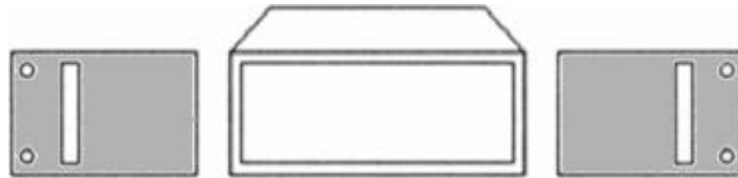

Figure 2. Optional Rack Mounting Kit
1.2.17 Optional Rack Mounting Kit (see Figure 2)